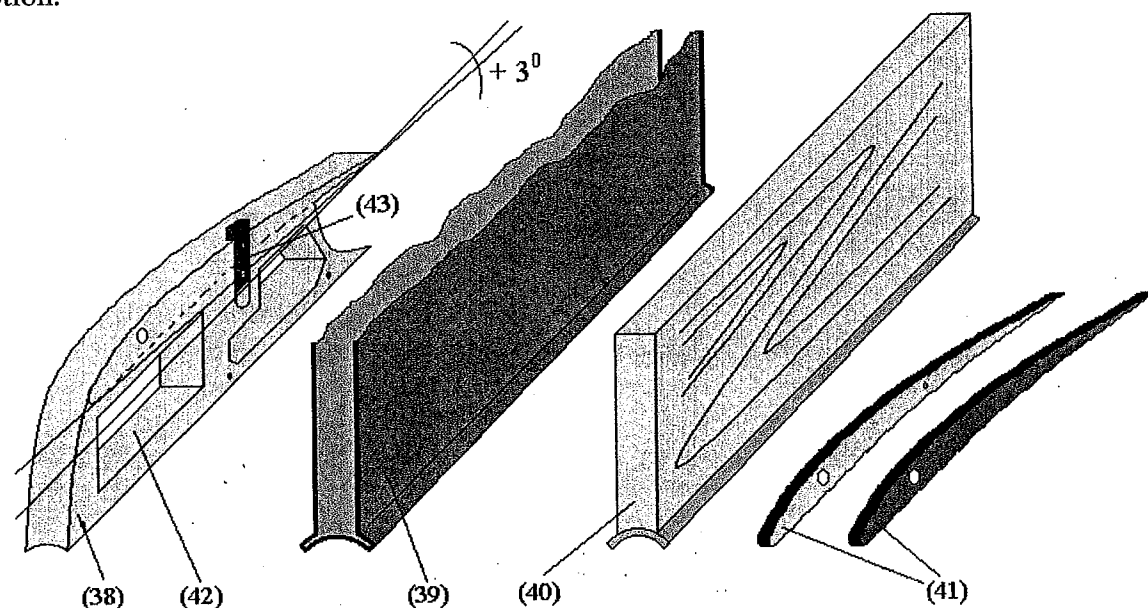

Figure 16. Canopy Component Parts
- a) **Canopy** (figure 16) is composed of a central part made of linden tree wood (38) having got a 15 mm thickness, an external coat made of glass fiber (39), vacuum polymerized onto the wooden support (40) having got a taper sole /base made of glass fiber. In order to get the same taper shape, the base shall be got onto a finite fuselage (central part) section.